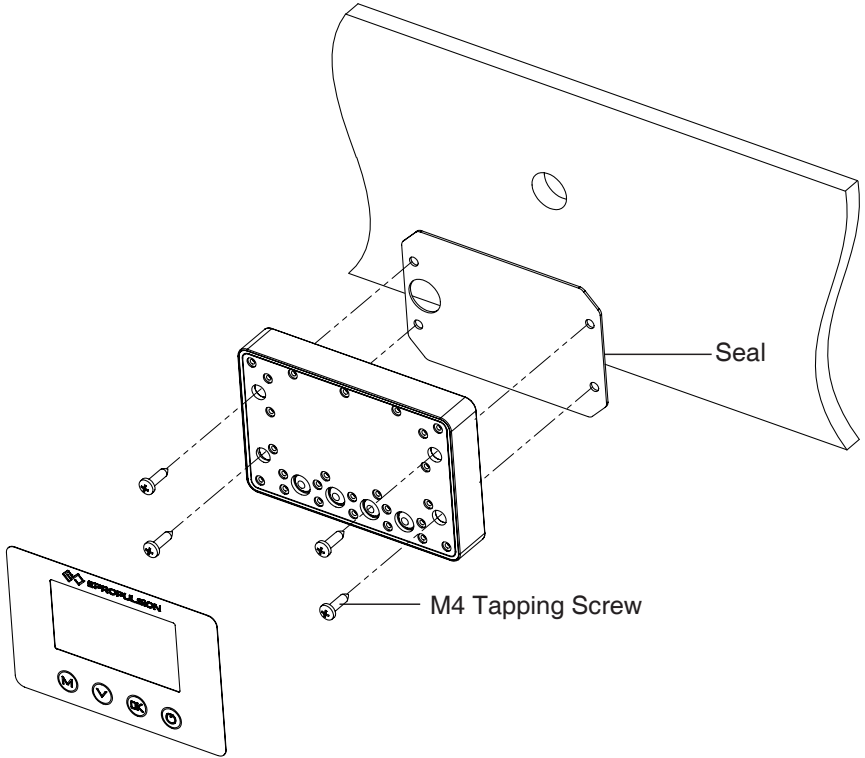

Figure 2-8
② Tear the film of the display panel, then fix the display panel to the boat referring to the figure 2-8.